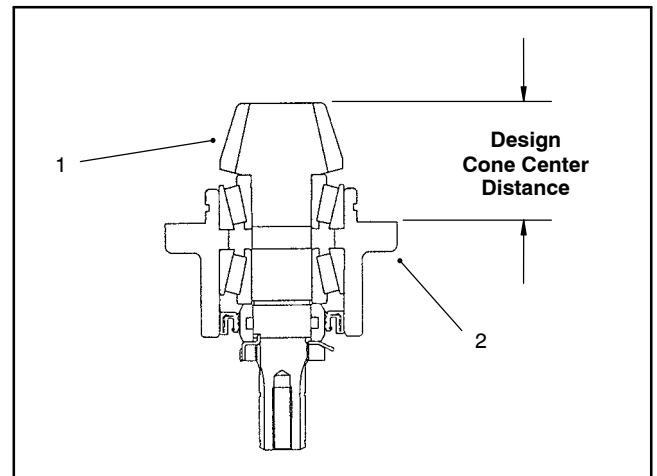

Figure 28
8. Use a depth gauge to measure the distance from the end face of the input shaft/pinion gear to the mating surface of the bearing case. Subtract the "Design Cone Center Distance" from this distance to determine initial shim thickness (Fig. 28).